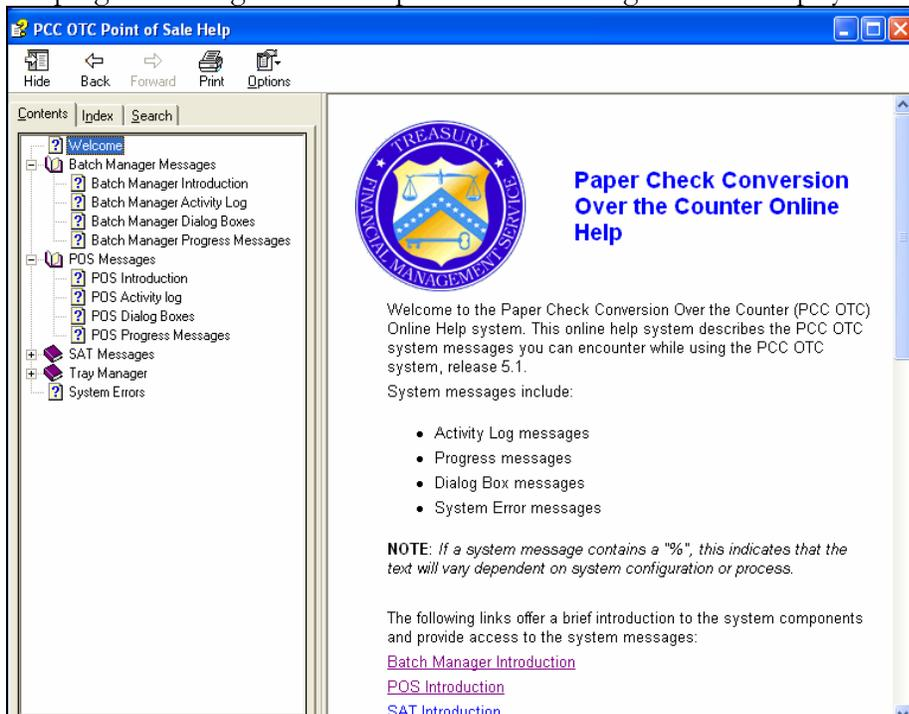
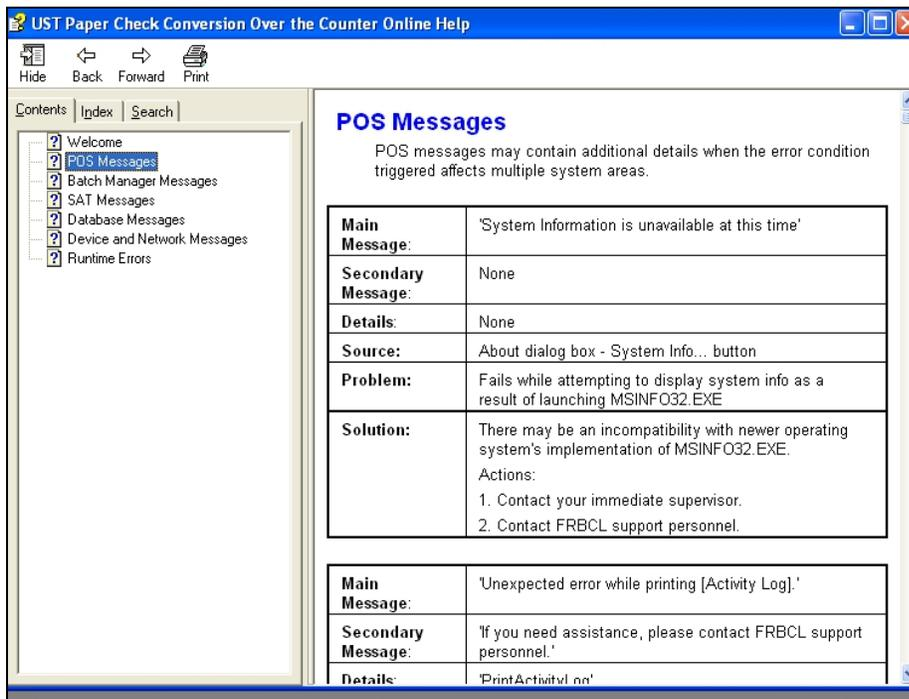

Figure 2.31
Figure 2.32
- Contents – Displays a menu of POS system messages as displayed below in Figure 2.31. You can click on any of the categories to see the description of various messages for that category. POS messages include an Introduction, along with Activity Log messages, POS dialog box messages and POS progress messages. An example of a POS message screen is displayed in Figure 2.32.